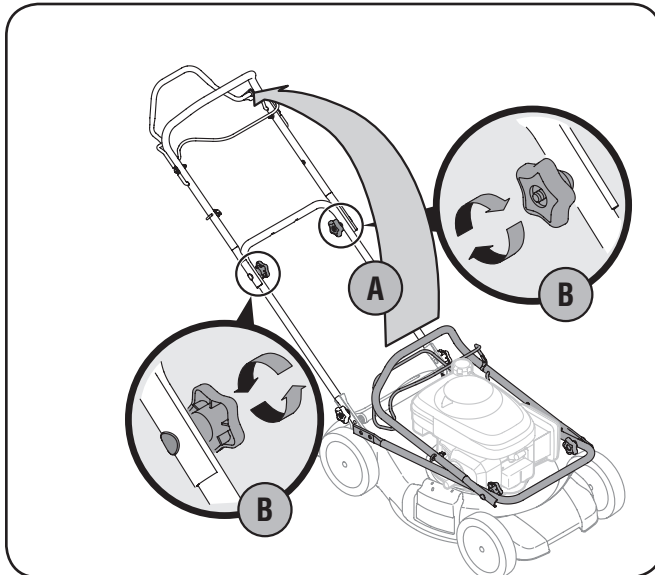

Figure 3-1
- b. Pull up and back on upper handle as shown in Fig. 3-1. Do not crimp cable while lifting the handle up. Remove star knobs from handle mounting brackets and secure the lower handle onto the handle brackets by placing the lower hole of the lower handle onto the pins of the handle brackets.
- c. Tighten star knobs securing upper handle to lower handle. See Fig. 3-1. Make sure that each carriage bolt is seated properly in the handle.